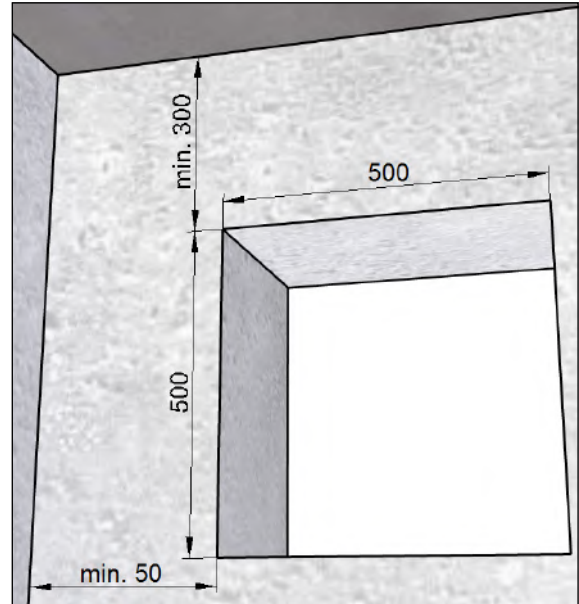

Fig. 10: Wall breakthrough for installation kit **with** filler piece, dimensions in millimetres
- Complete wall breakthrough (see Fig. 10) for installation kit **with** filler piece M-WRG-M/Fü
- Complete wall breakthrough (see Fig. 10 on page 20) for installation kit **with** filler piece M-WRG-M/Fü